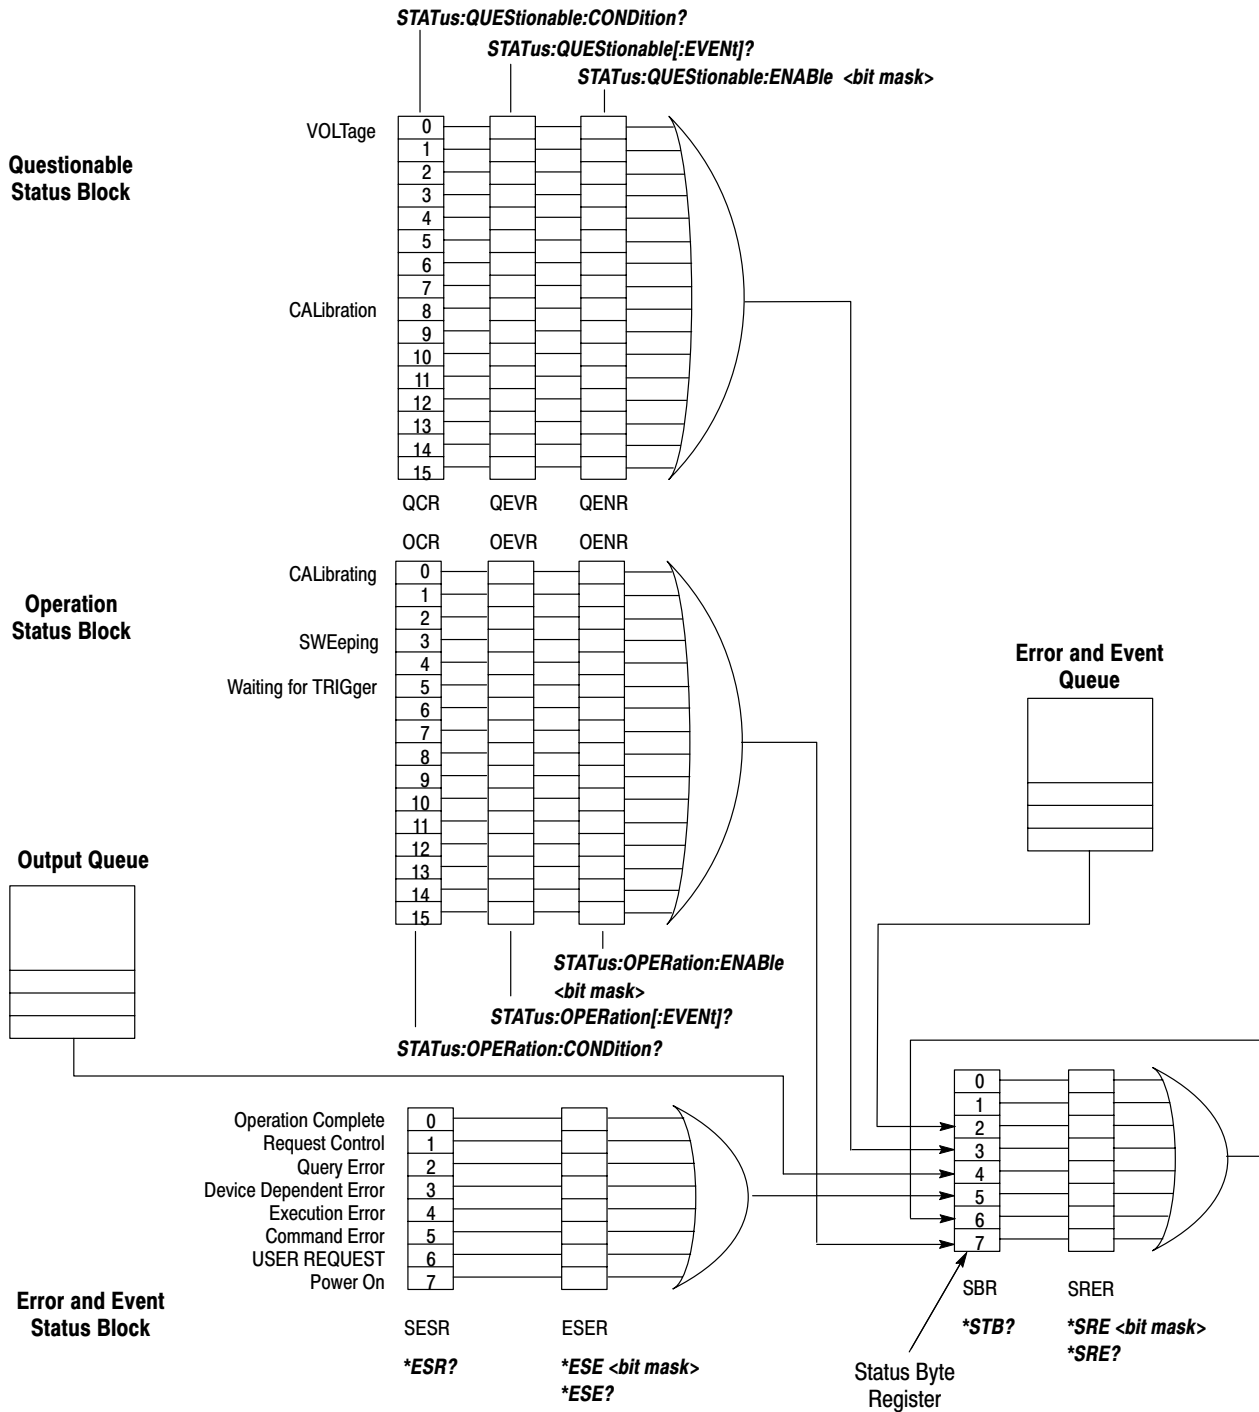

Figure 5-1: Error and Event Handling Process Overview
Figure 5-1 shows an outline of the instruments error and event reporting function.
This block is made up of two registers: the Standard Event Status Register (SESR) and the Event Status Enable Register (ESER). See the Error and Event Status Block shown at the bottom of Figure 5-1.
- This block is made up of three registers: the Operation Condition Register (OCR), the Operation Event Register (OEVR) and the Operation Enable Register (OENR). See the Error and Event Status Block shown at the bottom of Figure 5-1.